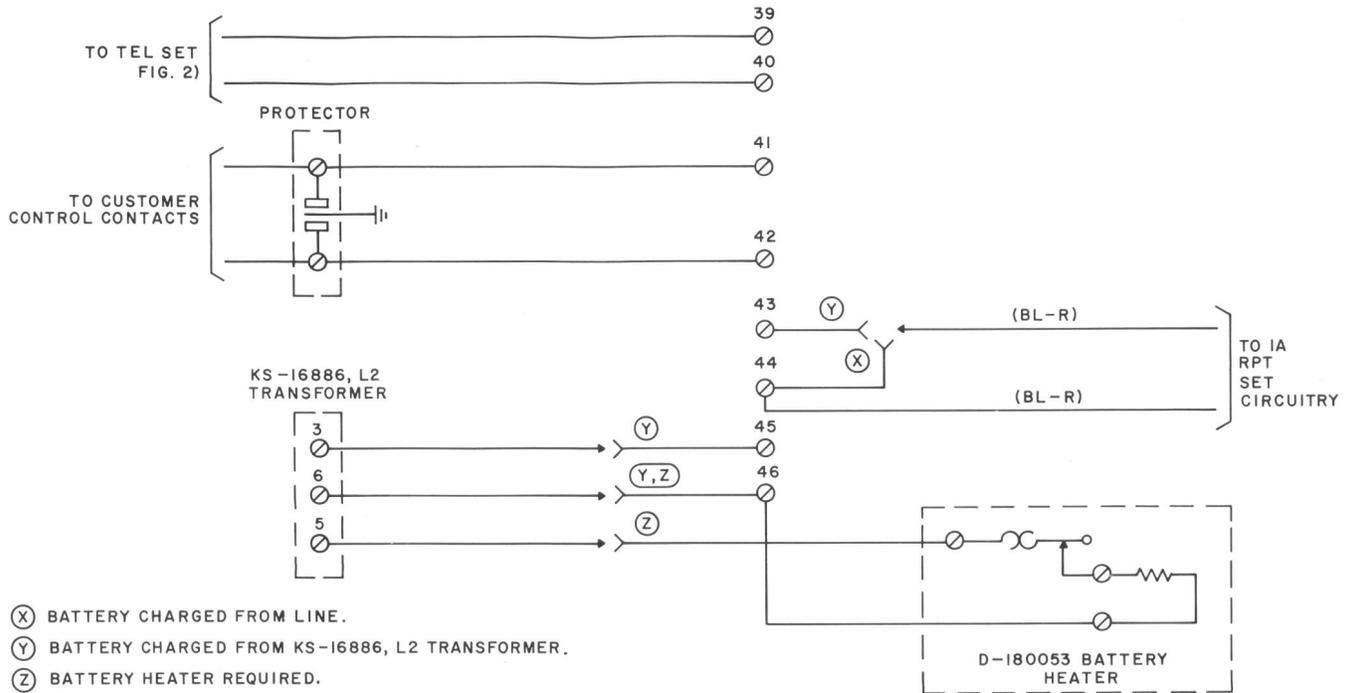

Fig. 7 — ART, Connections
(3) If the battery charge cannot be maintained from the telephone line, ie, (a) loop resistance in excess of 1500 ohms, (b) CO or PBX battery other than 48 volts (or PBX battery that may be turned off at night), (c) CO or PBX line circuit equipment that will not tolerate charging current plus line leakage. Install KS-16886, List 2 transformer and connect to terminals 45 and 46 (Fig. 7).
(4) If the ART is to be operated at temperatures lower than 0°F, a D-180053 battery heater (replaces the regular battery holder) and a KS-16886, List 2 transformer must be used. Connect the heater per Fig. 7 and 8.
(5) Install and connect a fully charged battery (Fig. 7 and 5.05).